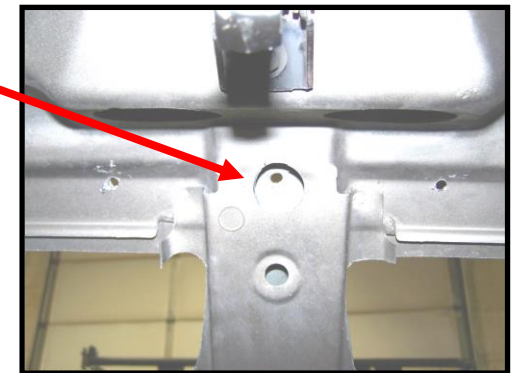

Figure 3
****NOTE**** You will need to use the 1” hole saw to expand the center bottom hole under the hood in the support section in order to attach the nut to stud. See (Figure 3)